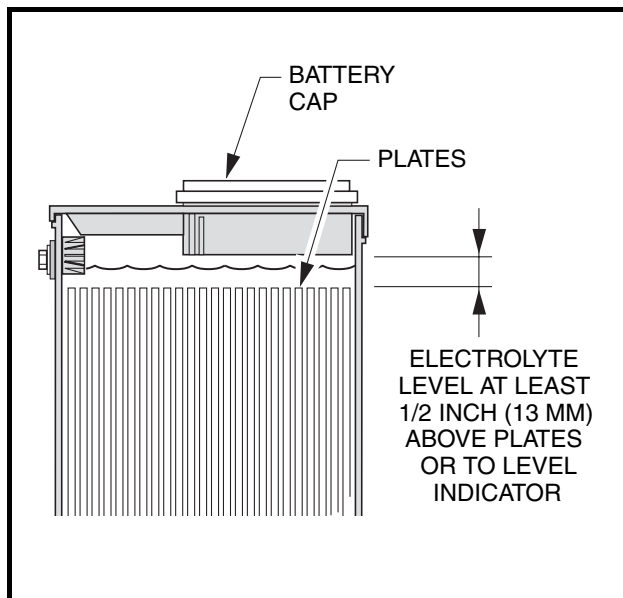

Figure 11-6 Battery Electrolyte Level
1. Be sure that the battery has sufficient water to cover the plates by approximately 1/2 inch (12.7 mm) and is fully charged prior to beginning the test. If water must be added, recharge the battery before performing the hydrometer test (**Figure 11-6, Page 11-13**).